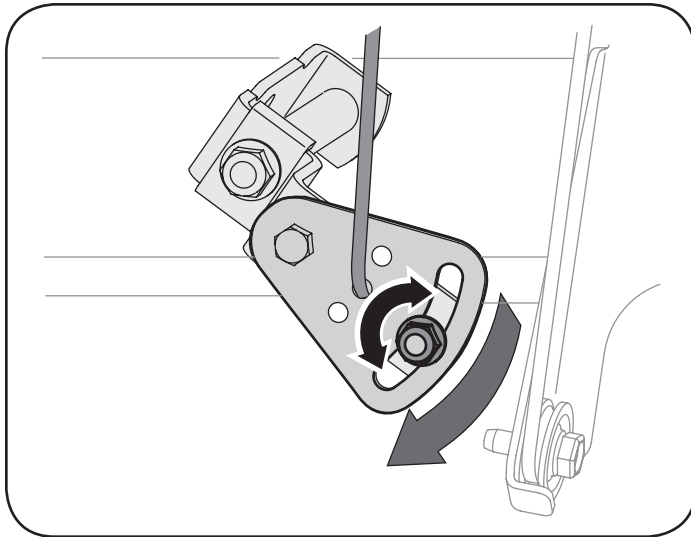

Figure 60
2. Loosen the hex nut on the shift cable index bracket. See Figure 60.